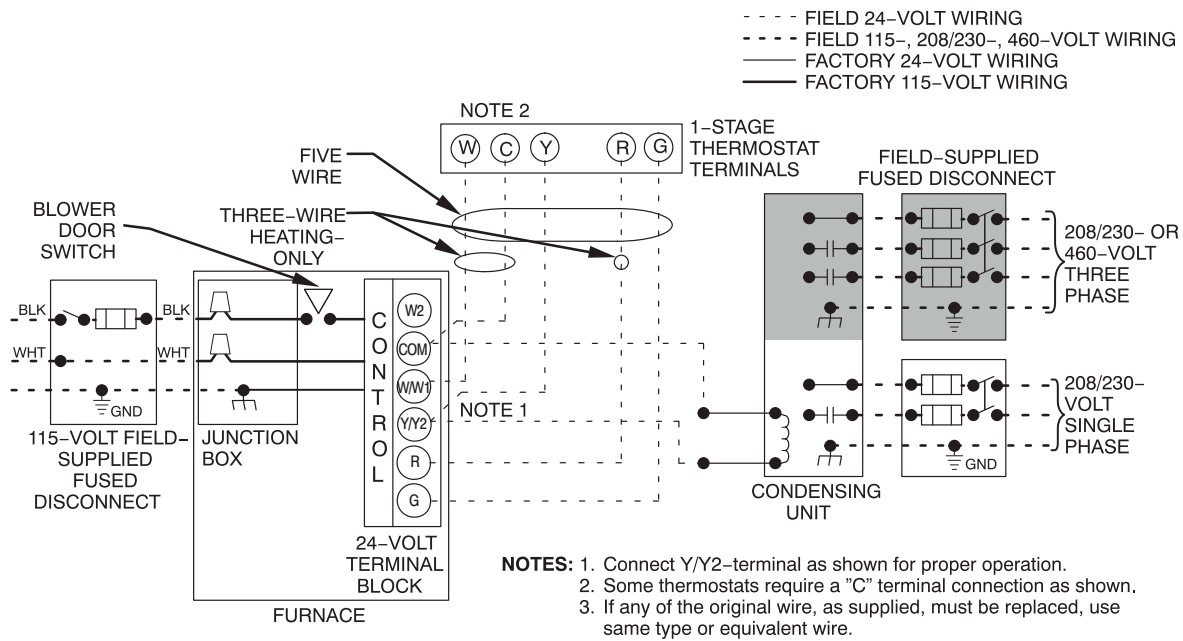

Fig. 34 - Typical Two-Stage Field Wiring Diagram
7. Connect field power and neutral leads to furnace power leads as shown in Fig. 34.
6. Connect power cord power and neutral leads to furnace power leads as shown in Fig. 34.
5. Connect field power and neutral leads to furnace power leads as shown in Fig. 34.
Make field 24-v connections at the 24-v terminal strip. See Fig. 35. Connect terminal Y/Y2 as shown in Fig. 34 for proper cooling operation. Use only AWG No. 18, color-coded, copper thermostat wire.